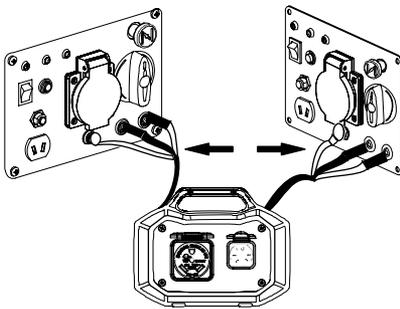

Fig. 2
3. Connect the parallel kit to parallel outlets on both generators (Fig. 2).